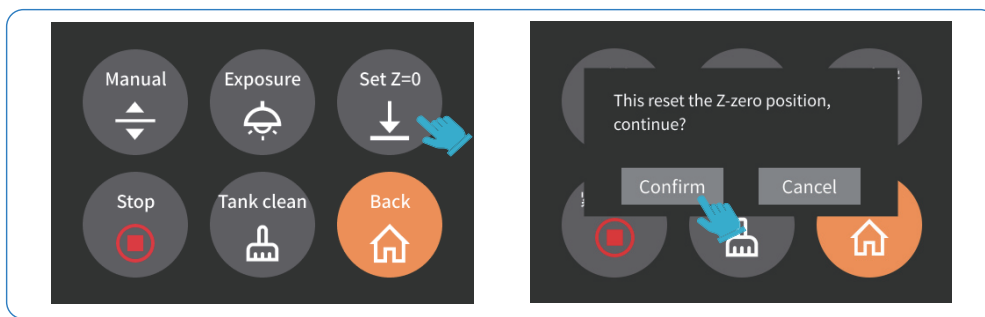

Figure 10
4. Then go back to the previous menu and tap **Set Z=0**. In the confirmation pop-up, tap **Confirm**. The current Z-axis position is now saved as the new starting height of the first printed layer (see Figure 10).